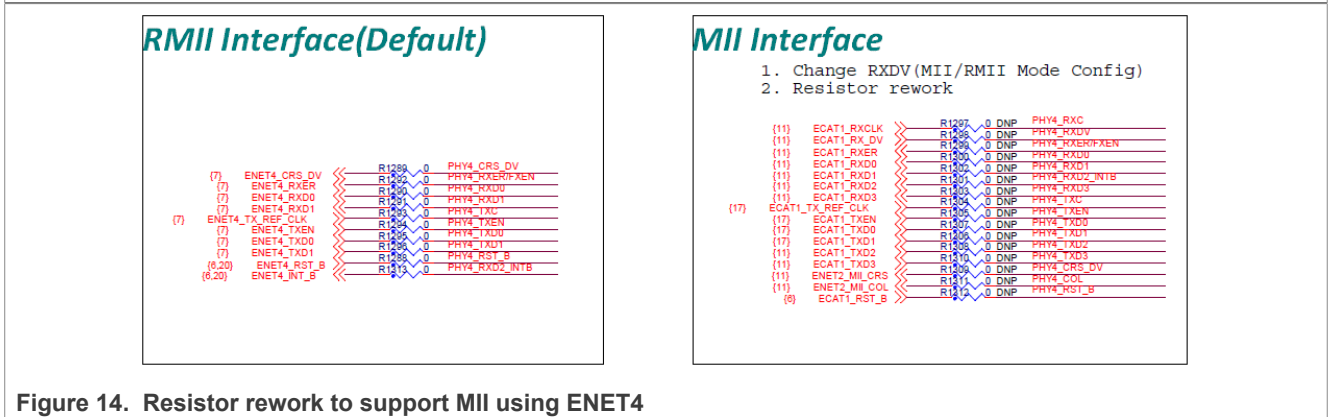

Figure 14. Resistor rework to support MII using ENET4
- To use the PHY4 in MII mode, resistor rework is required as shown in Figure 14.